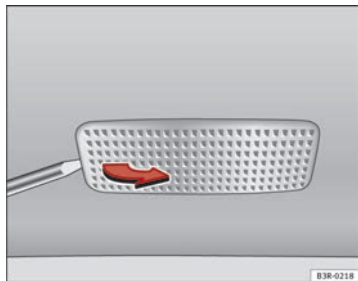

Fig. 243 Removing sun visor light
- Remove the bulb carefully, using the flat part of a screwdriver ⇒ Fig. 243.